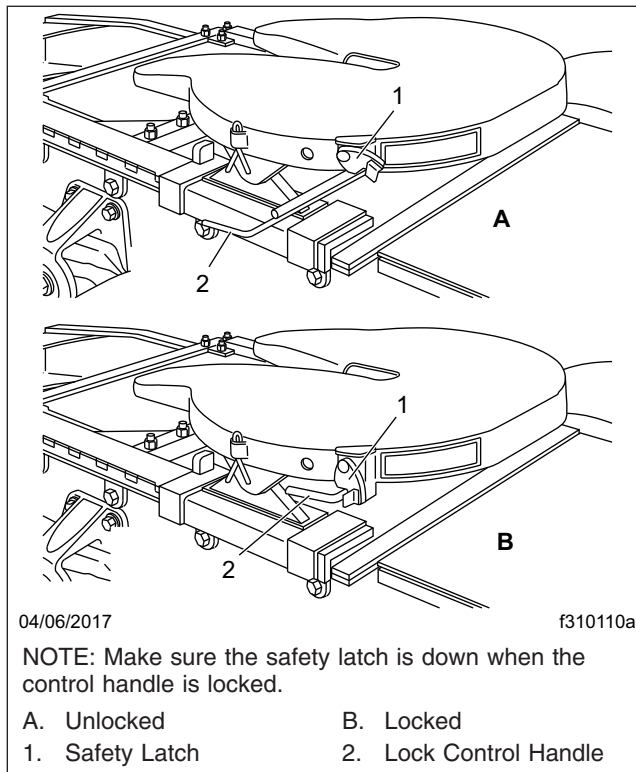
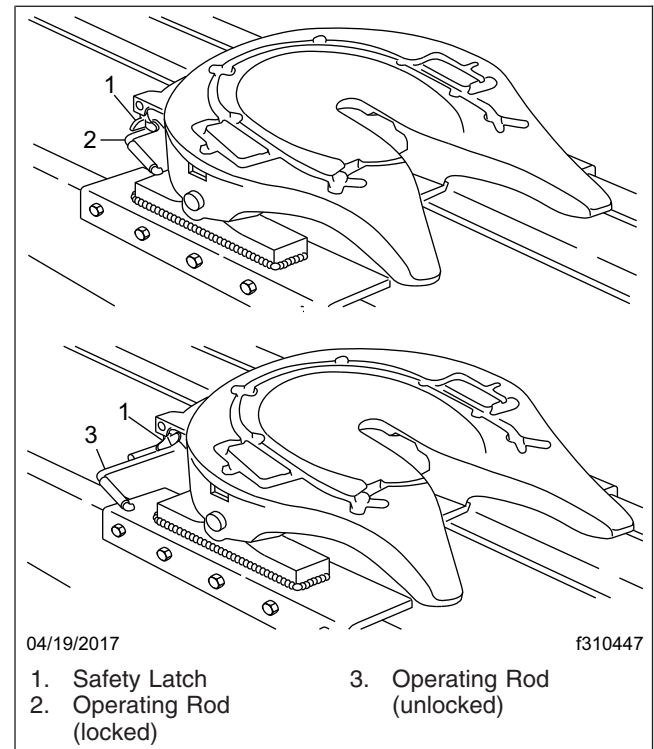

Fig. 18.2, Fontaine Locking Mechanism
Fig. 18.3, Holland Simplex SE Locking Mechanism
2. Ensure the fifth wheel jaw is fully open and the operating rod is in the unlocked position. See Fig. 18.2 or Fig. 18.3.
When lockup has occurred, the fifth wheel control handle moves to the locked position. Make sure that the safety latch is down over the lock control handle to hold the control handle in the locked position (the safety latch will only rotate down if the operating rod is fully retracted in the locked position). See Fig. 18.2 or Fig. 18.3.
- Fontaine:** Lift the safety latch and pull the lock control handle to the unlocked position. See Fig. 18.2.